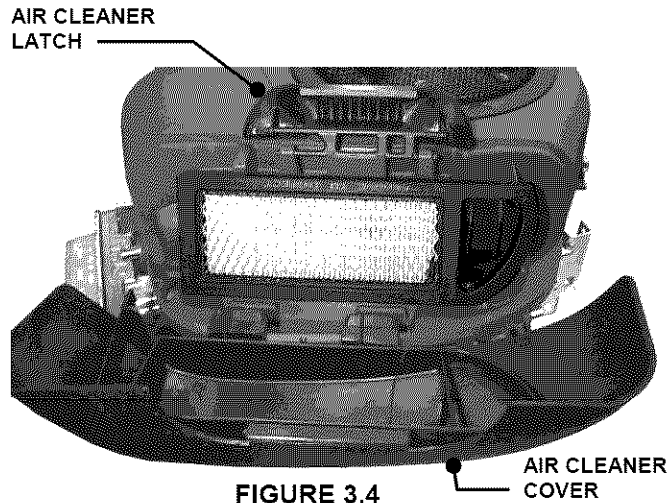

FIGURE 3.4
a. **18 HP Engines:** Change air filter. Pull up and rotate the air cleaner latch to remove cleaner cover. See Figure 3.4.